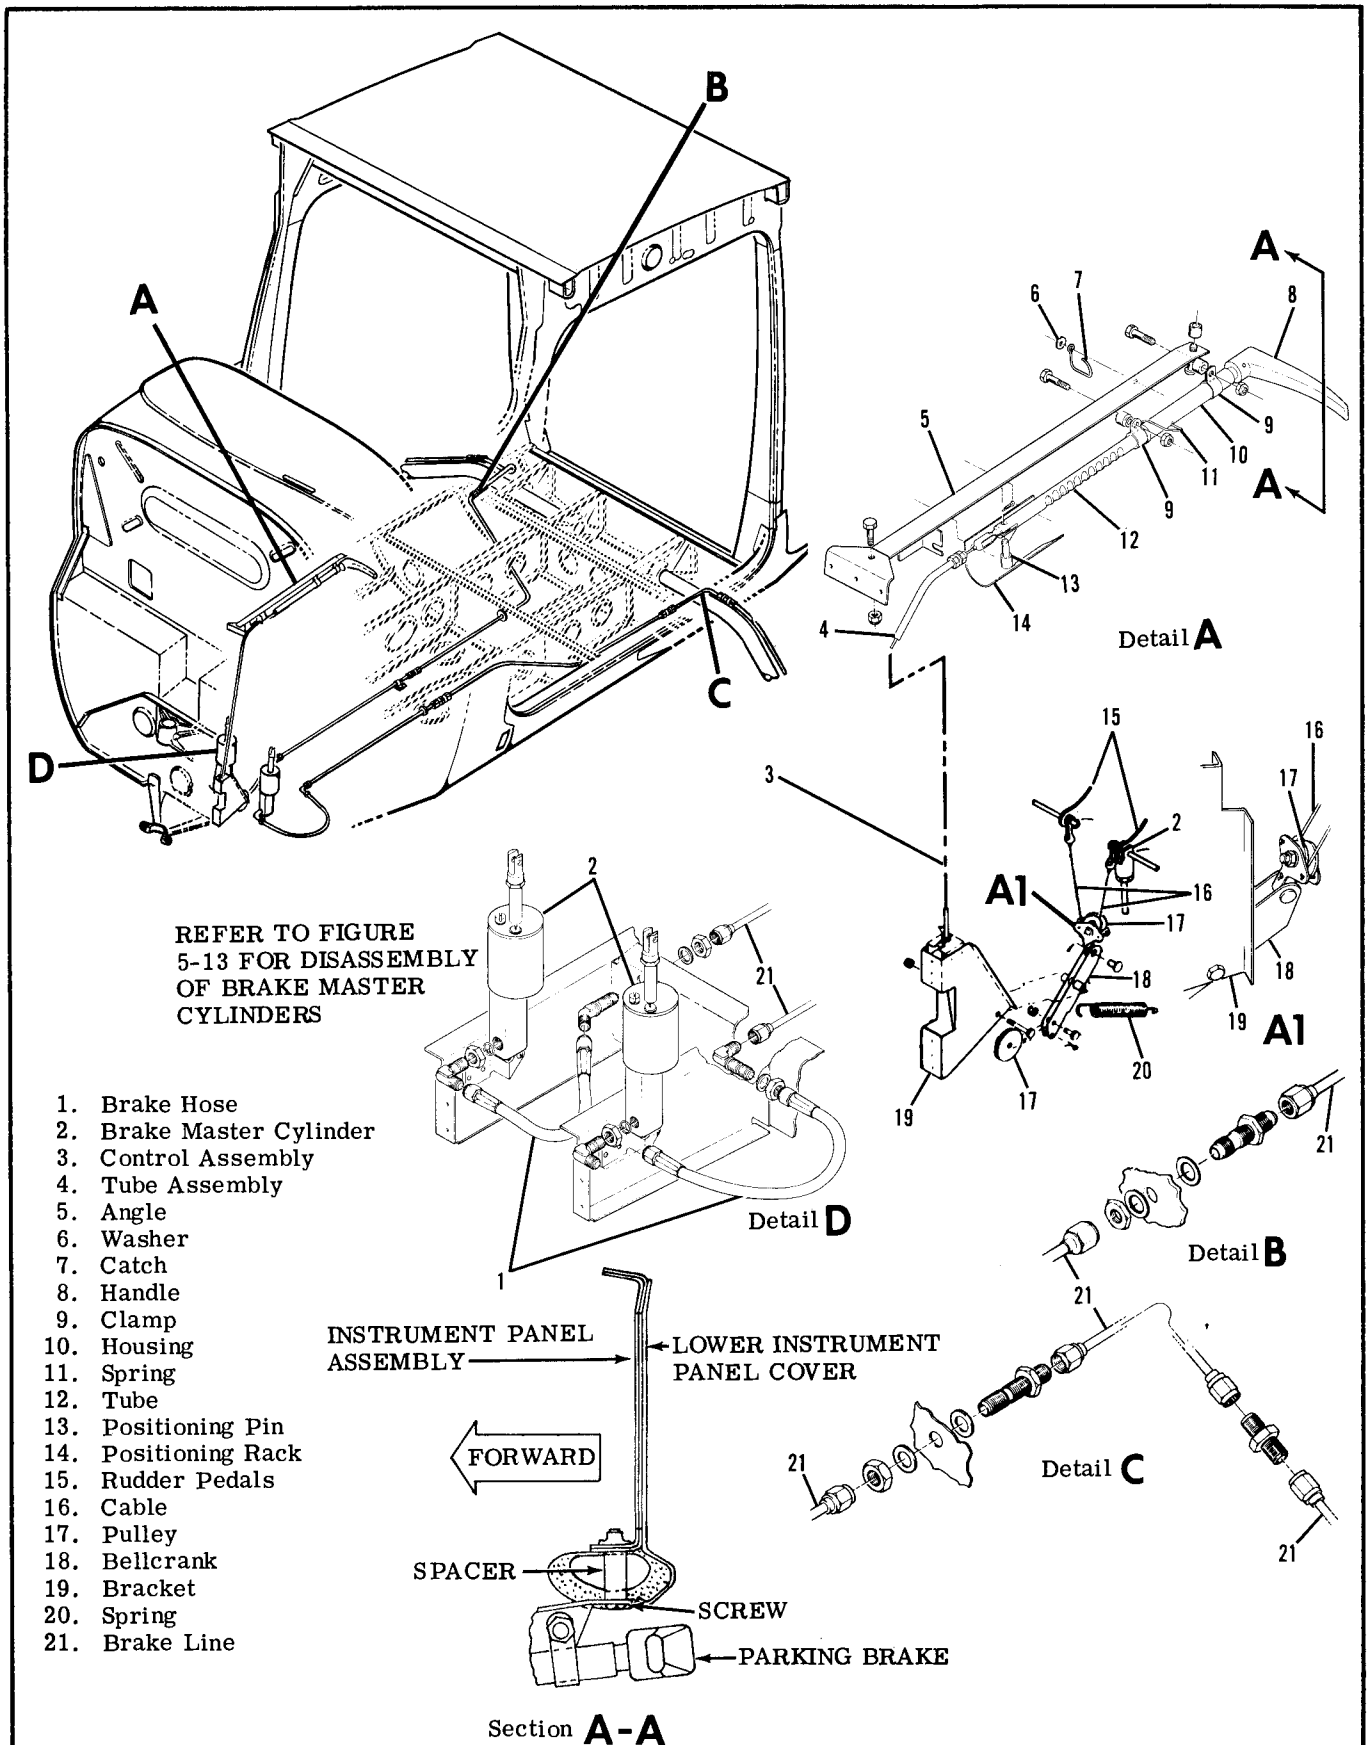

Figure 5-13. Brake Systems
**5-77. PARKING BRAKE SYSTEM.** (Refer to figure 5-13.)